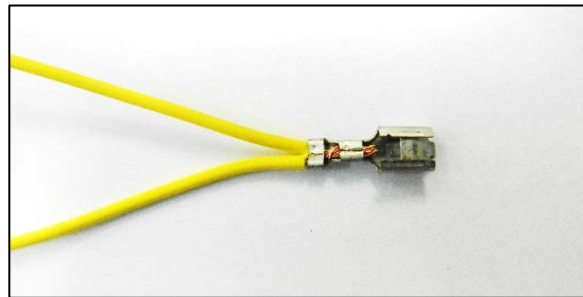

Fig.5
9. Crimp twisted wires into a new female terminal (part #562768) as shown in figure 5.